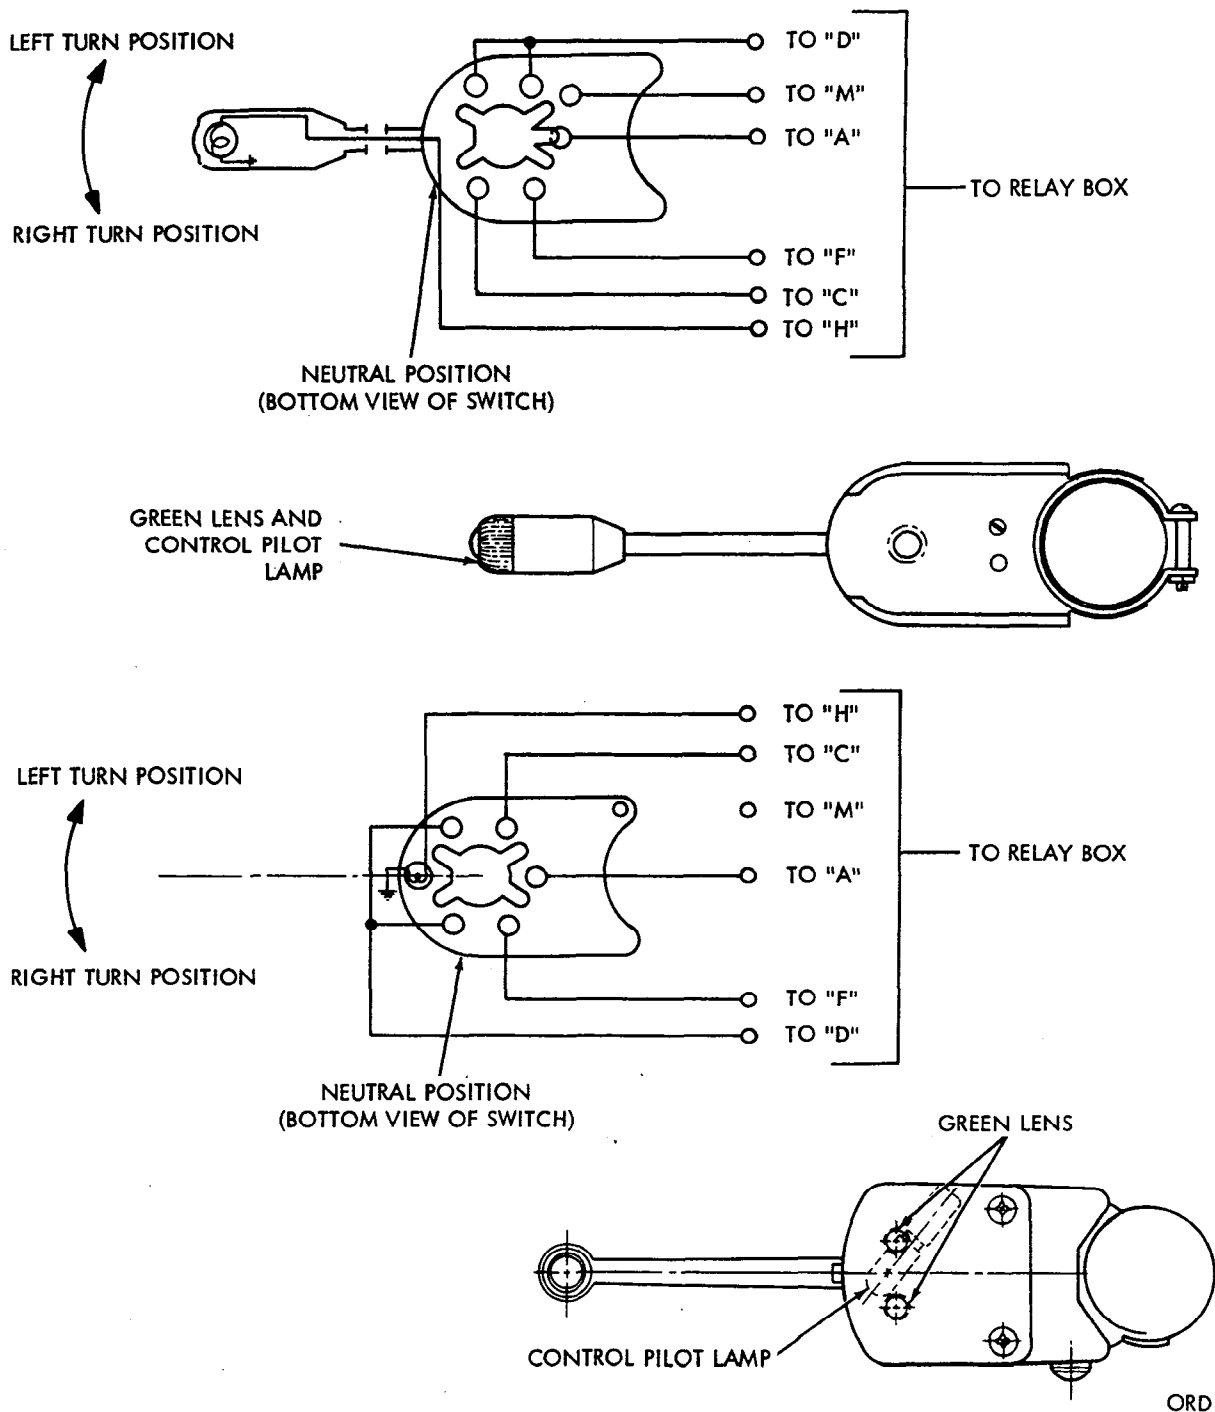

Figure 2-65. Turn signal control switch—alternate types.
(Fig. 2-65.)
(1) Before attempting to remove old switch harness terminals from distribution box, route replacement harness through dash panel opening at top side of steering column. Continue to route harness to the right along top of bottom flange of dash panel past cowl ventilator mechanism and to the distribution box. Remove leads at distribution box from old harness and replace with those from new harness as outlined in paragraph 2-47 *a* (2) through (4).
(2) Position new switch on steering column approximately 7/8-inch below edge of steering wheel collar, and tighten switch mounting screw (fig. 2-65) or screw and nut (alternate types) securely. Install harness clamps to steering column (fig. 2-65).
(3) Place vehicle light switch in STOP LIGHT position check operation of switch.
b. Control Switch Pilot Lamp (Fig. 2-65). Procedure is dependent on type of turn signal control switch installed in vehicle. Remove green lens in end of lever by turning counterclockwise and replace bayonet type lamp in usual manner. Replace lens in end of lever. For alternate type switch, remove switch top cover by removing two cross-recess screws and remove lamp. Replace cover. Correct size lamp is essential to insure the correct flashing rate. Use No. 313 or equal as marked on lamp.